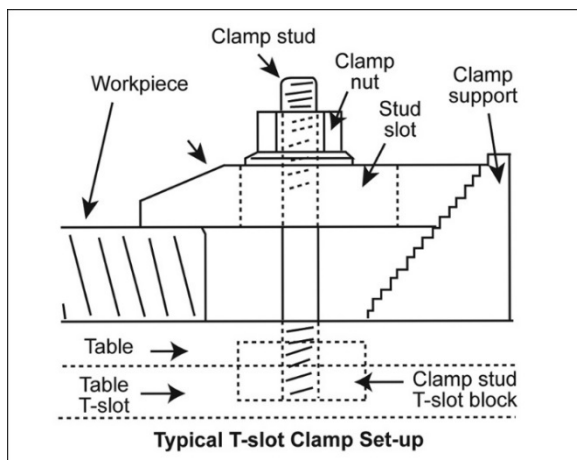

Figure 10-2: Work piece clamping
3. Clamp workpiece using T-slot clamps, studs, and step blocks as required. See Figure 10-2.